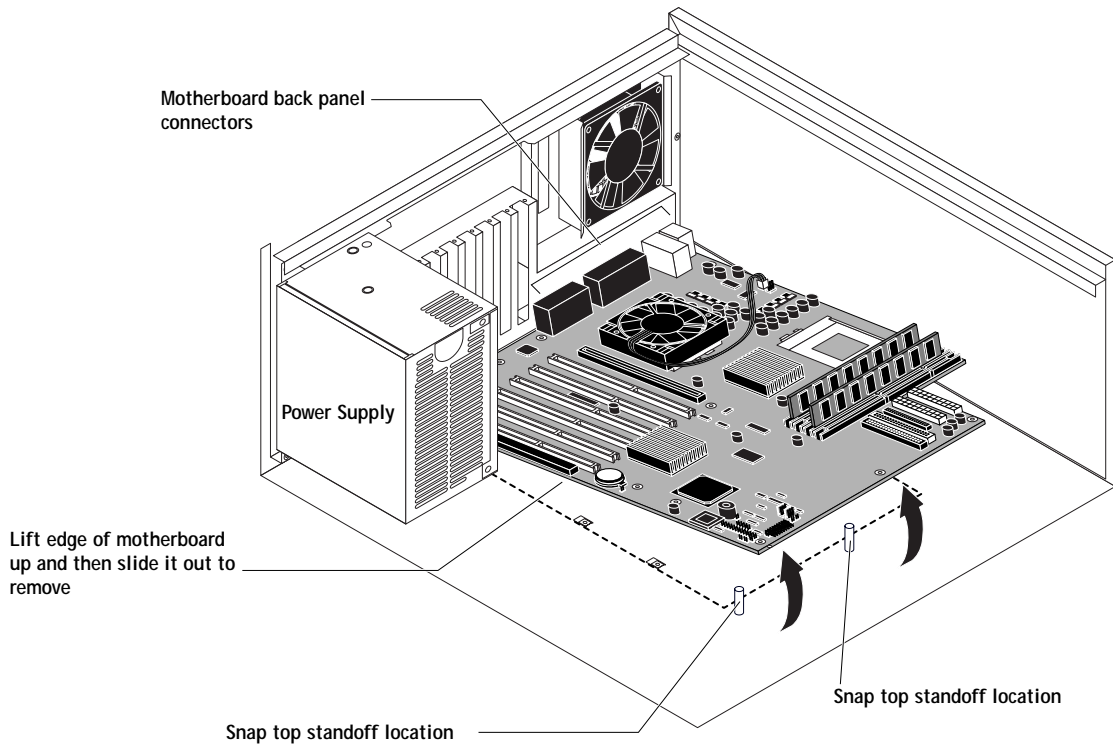

FIGURE 4-16 Removing the motherboard
4. Lift the edge of the motherboard opposite the back panel connectors to remove the motherboard from the chassis (see Figure 4-16 on page 4-28).
1. Angle the motherboard so the back panel connectors on the motherboard fit into the cutouts in the back of the chassis (see Figure 4-16 on page 4-28).
2. Align the mounting holes on the edge of the motherboard (opposite the back panel connectors) with the standoffs located in the base of the chassis (see Figure 4-16 on page 4-28).